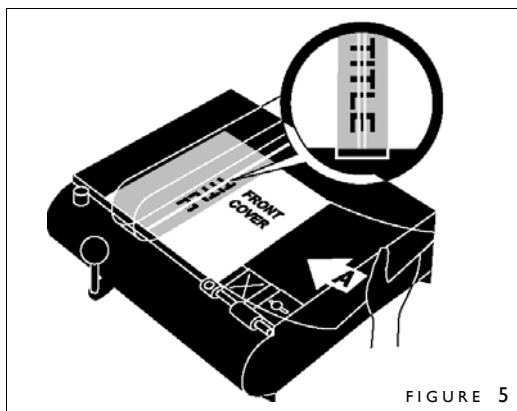

FIGURE 5
1. Slide your material under the transparent bar (figure 5). Make sure the bottom edge of your cover is resting against the front Guide Rail.